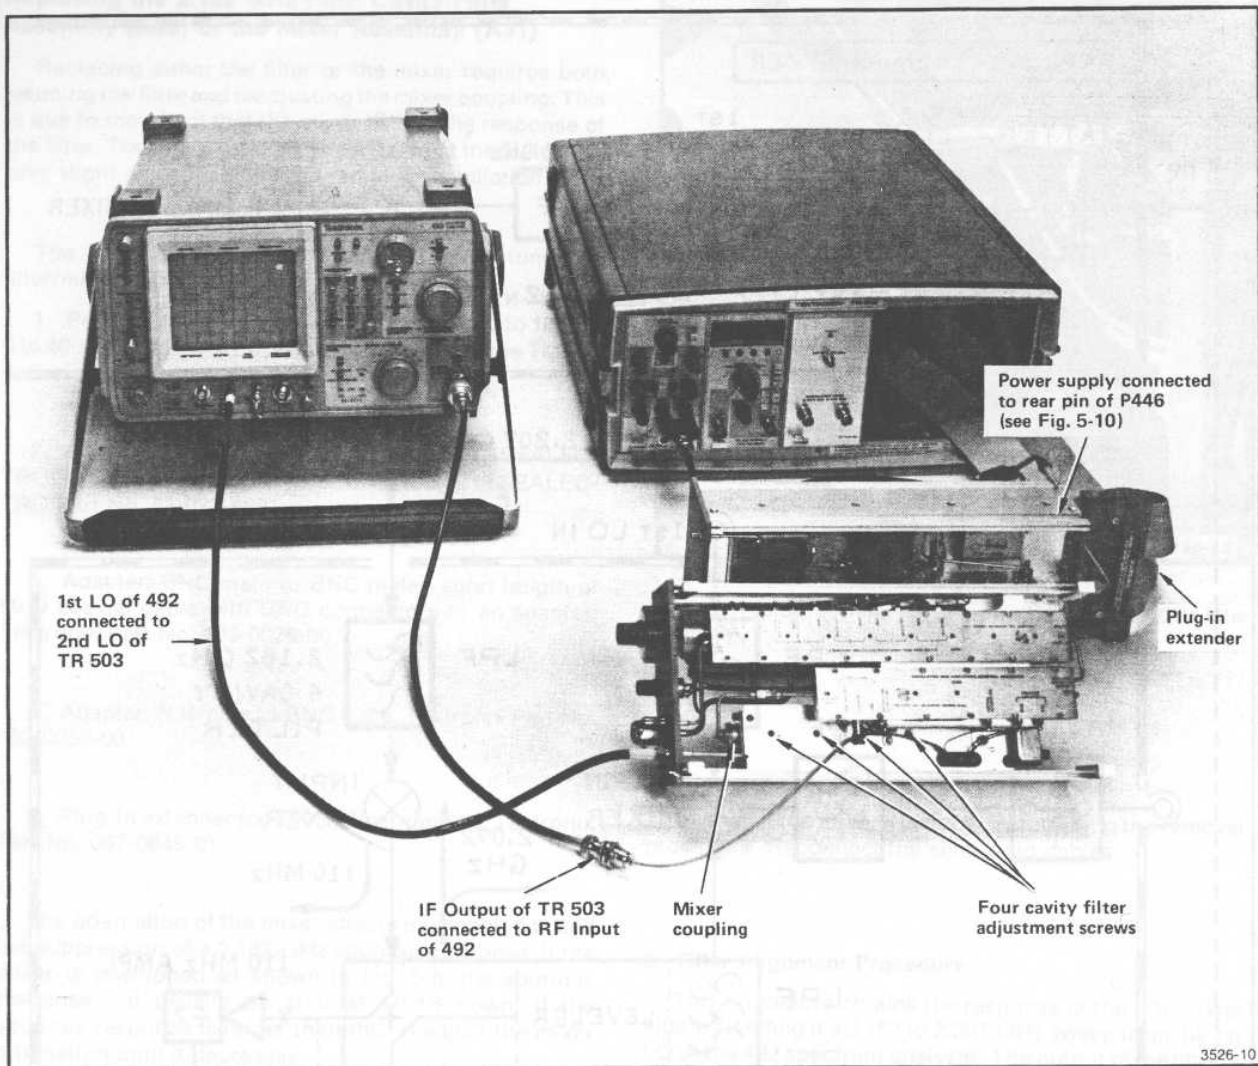

Fig. 5-8. Positioning the TR 503 to adjust the 2.182 GHz filter/mixer assembly.
a. Refer to the steps described above in "Separating the TR 503". Position the two sections as shown in Fig. 5-8, with the control section of the TR 503 horizontal and the other section upside down. Connect the plug-in extender between the TR 503 and the TM 500 mainframe (because the TR 503 card edge is upside-down, give the extender cable a half-twist before plugging it into the TM 500 mainframe).